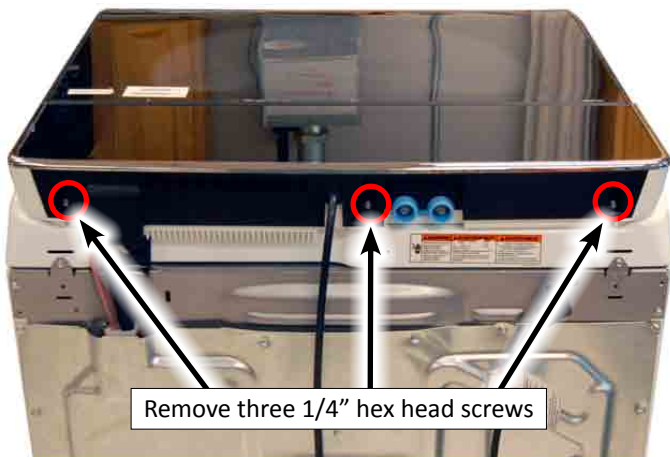

Figure 1
3. Remove three (3) 1/4" hex-head mounting screws from the rear of the access panel as indicated in Figure 1.